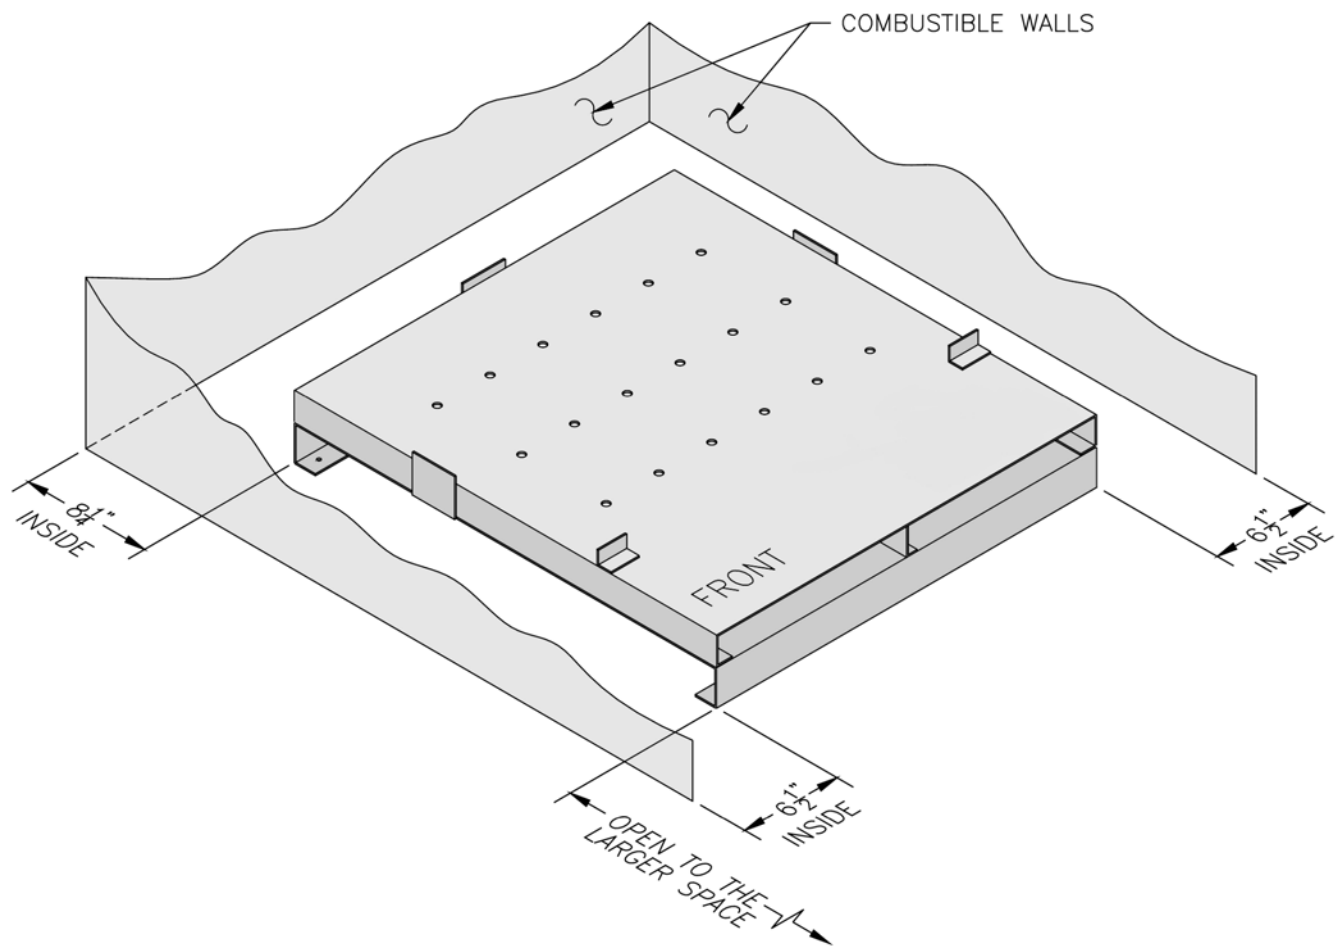

Figure 5: Installation of Combustible Flooring Base
- 7) Installation on combustible flooring requires the use of a special base designed and approved for use on combustible floors. See Figure 5. This special base adds 4-3/4" to the overall boiler height. Follow the instructions below if a special base is required.
- b. Locate special base with spacing to combustible materials as shown in Figure 5.